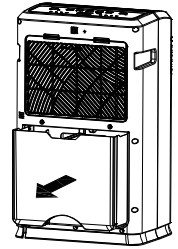

Fig.1
1. Take tank out from back of machine. Fig.1